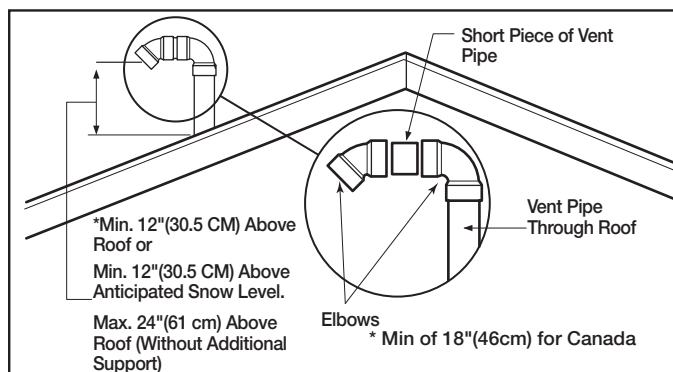

Figure 7 – Vertical Vent Terminal Location
**VERTICAL VENT TERMINAL LOCATION** – The location of the vertical vent terminal depends on the following considerations (see Figure 7):